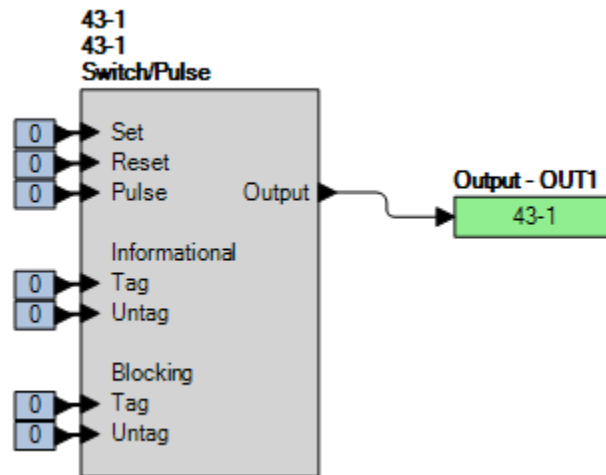

Figure 84-1. BESTlogicPlus Settings
Step 2: Use BESTCOMSPPlus to configure the BESTlogicPlus programmable logic shown in Figure 84-1.